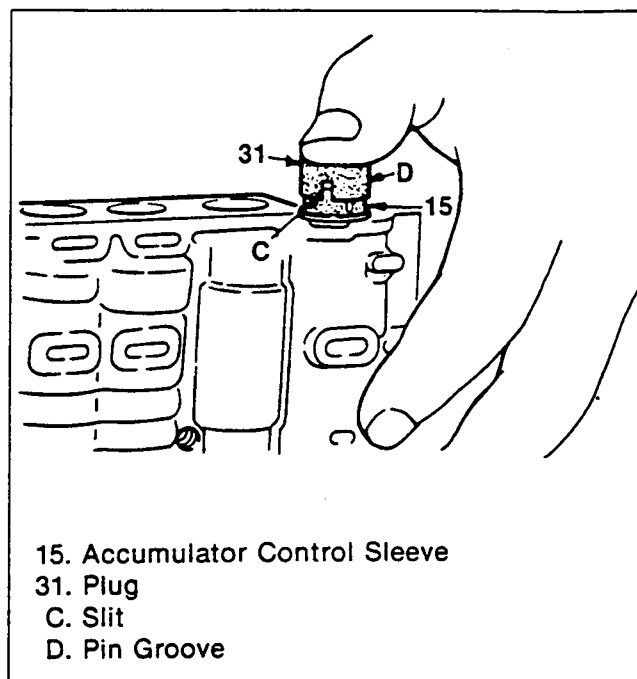

Figure 114. Valve Body Valve Installation
4. Install the plug in such a way that the projection on the sleeve fits in the slit in the plug (figure 114).